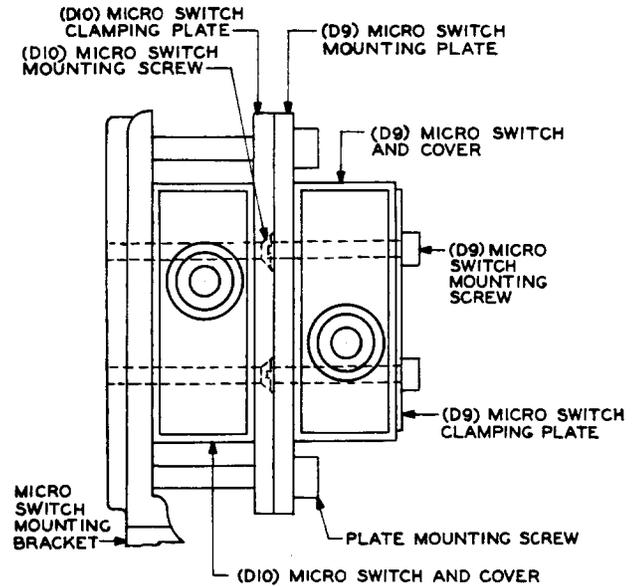

Fig. 9 - Selector Handle Micro Switches
**7.04** Referring to Fig. 9, remove the (D9) Micro Switch mounting plate using the R-2485 wrench and allow the (D9) Micro Switch and mounting plate to hang by its leads. Then, remove the (D10) Micro Switch and clamping plate from the bracket using the 3-inch C screwdriver. Lift the cover off the Micro Switch and slide it back on the leads. Connect and solder the orange lead from the counter to the Micro Switch terminal marked NORM CLOSED CIRCUIT. Remount the cover on the (D10) Micro Switch. Remount the (D10) Micro Switch and clamping plate on the bracket and securely tighten the screws. Remount the (D9) Micro Switch mounting plate with the Micro Switch and securely tighten the screws.